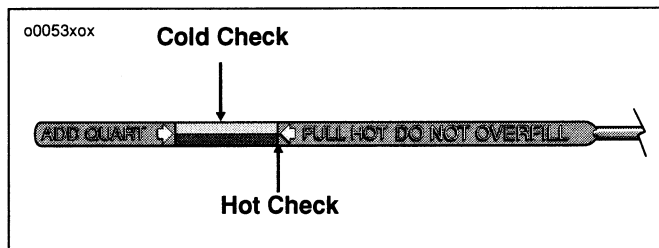

Figure 39. Engine Oil Level
2. See Figure 39. Remove the dipstick and note the level of the oil. Oil level should register between the two arrows on the dipstick.